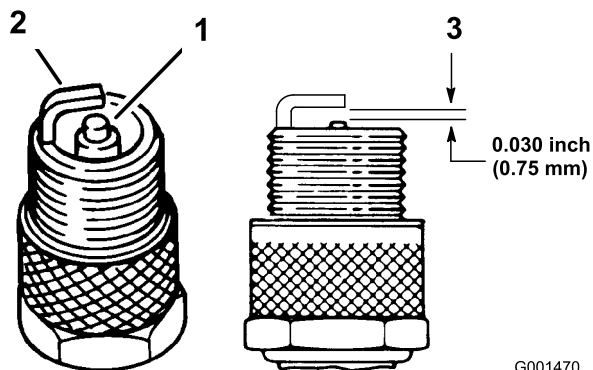

Figure 32
1. Look at the center of the spark plugs (Figure 32). If you see light brown or gray on the insulator, the engine is operating properly. A black coating on the insulator usually means that the air cleaner is dirty.
3. Check the gap between the center and side electrodes (Figure 32). Bend the side electrode (Figure 32) if the gap is not correct.